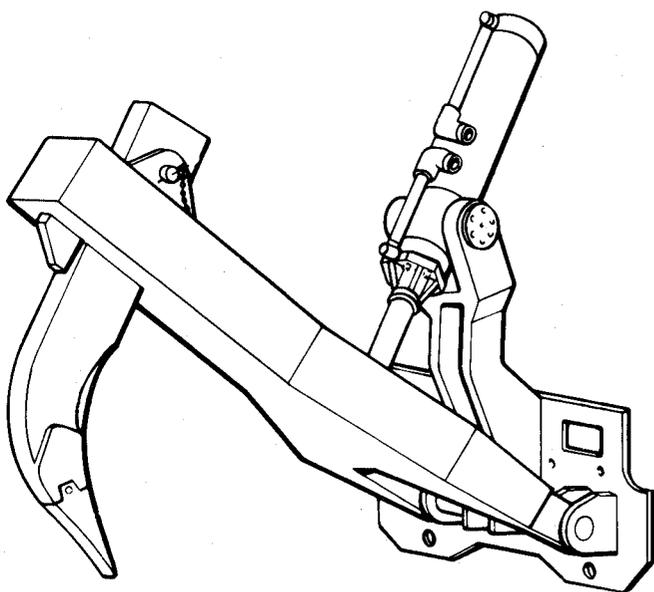

Figure 12 — Ripper equipment — Hinge type
6.1.2 ripper equipment (see figures 12, 13 and 14) : Consists of a frame connected to the rear part of the base machine by means of a mounting bracket. It is equipped with one tooth or more.